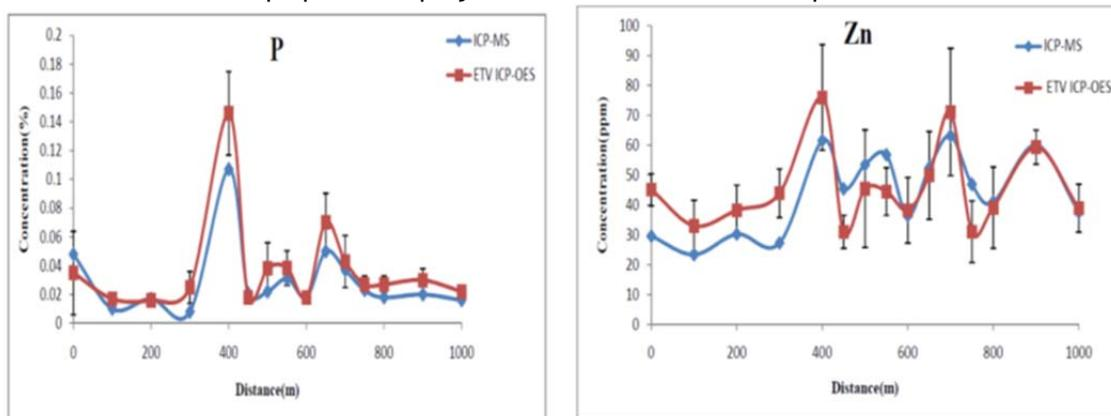

Figure 1: Comparison of the Zn and P distributions in soil samples obtained by ETV-ICP-OES and by aqua regia extraction ICP-MS.
Automating laboratory processes is a proven way to achieve improvements in throughput while ensuring consistent quality and performance. Automated solutions can be implemented on many different levels, beginning with the automation of one or more pieces of automated equipment, forming an automated island in an otherwise manual sample flow. Such systems can be expanded into a process chain, ending with the complete integrated solution (see Figure 1). The integrated system would automate some or all of the process steps from sample registration to data transfer to LIMS. In the case of the fully integrated system it is important to consider the constraints given by sampling theory relative to the materials that will be processed. The benefits and selection criteria of different automation strategies will be discussed and exemplified with different types of systems.
In the development of the method, the mass of sample, flow rate of reactant gas (dichlorodifluoromethane (R12)), the carrier and bypass gas flow rates and the temperature program were optimized. Under optimal conditions and with a four-step ETV temperature program, the distribution of the pathfinder elements (Zn, P, S and I) in soils showed clear anomalies at 400 and 650 m. The results for Zn and P were in very good agreement with results obtained, following aqua regia (AR) digestion, by ICP mass spectrometry (ICP-MS) by Anglo American. Moreover, the distributions of S and I could be precisely determined (these elements were not reported in the Anglo American study). Using 0-4 mg of Anglo S5 standard mixed with with 4.1 mL/min R12 as reactant gas, calibration curves were obtained that, when applied to Talbot soil samples, yielded Zn, S and P concentrations in agreement with AR-ICP-MS results previously obtained by Anglo American (Fig.1). These results clearly show that sample dissolution used in the ICP-MS method is totally unnecessary. Such sample processing is time-consuming, requires reagents and is susceptible to contamination because of the multiple steps involved. In contrast, the ETV temperature program only requires 85 s per sample, which is clearly advantageous over aqua regia extractions. Hence, ETV-ICP-OES completely eliminates the need for extraction or digestion of samples prior to analysis, which significantly simplifies the analysis of geochemical exploration samples. Furthermore, quantitation is not really required, as a comparison of ETV peak areas would be sufficient to pinpoint the projections of undercover ore deposits.